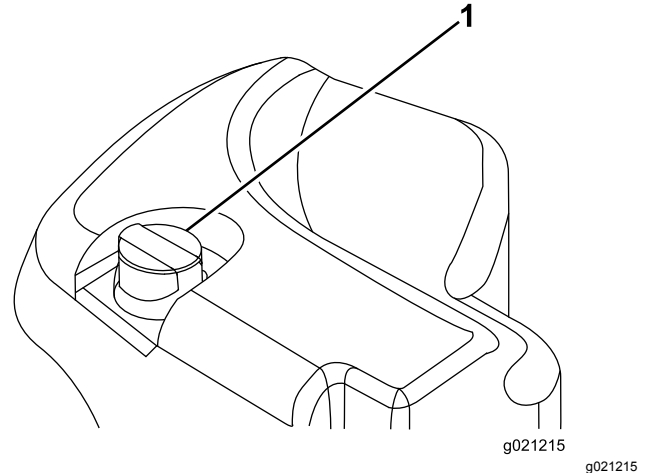

Figure 30
2. Clean the area around filler neck and cap of the hydraulic tank (Figure 30). Remove the cap from the filler neck.